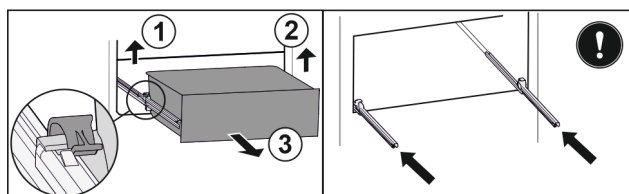

Fig. 144
- Lift left clamp and simultaneously pull drawer forwards on the left. Fig. 144 (1)
- Lift right clamp and simultaneously pull drawer forwards on the right. Fig. 144 (2)
- Remove drawer to the front. Fig. 144 (3)